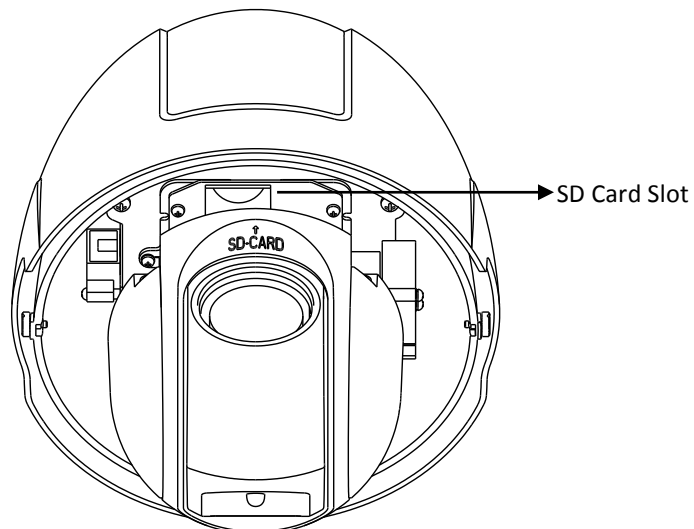

Figure 1-3 SD Card Slot for Network Dome
**NOTE:** The SD card slot of network speed dome is shown in Figure 1-3.